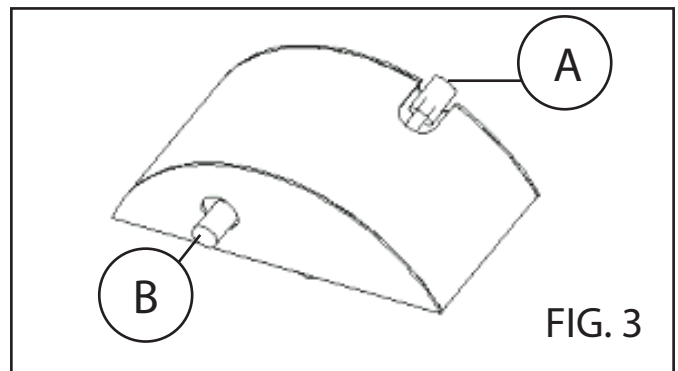

FIG. 3
- Turn on the machine and push the Rod (A in Fig. 3); let the stone grind under the side of the knife for a few seconds. This will sharpen the edge and create a slight burr on the top side of the edge. Rod (A) will return automatically when released.
- Remove the burr from the top side of the knife by pulling down Rod (B in Fig. 3); Only slight pressure is needed to home the edge. Using too much pressure can create a reverse angle and destroy the knife. Rod (B) will return automatically when released.